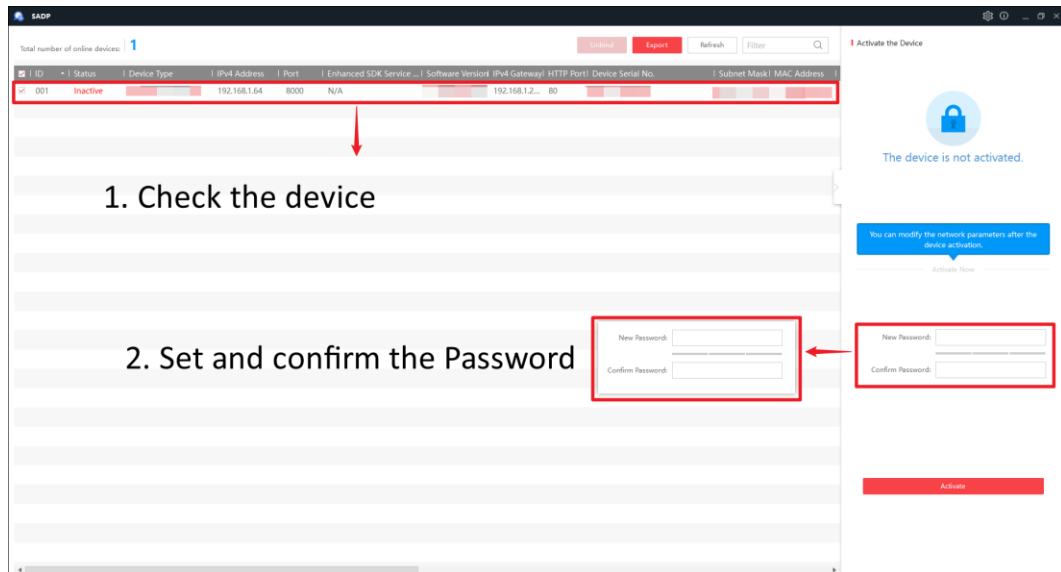

Figure 4-1 Activate Camera
**Step 2** Check the device to be activated, set the device password at "Activate Device", and click "Activate" to complete activation, as shown in Figure 4-1.